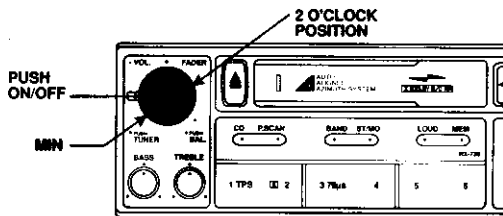

Figure 11. The Car Audio System's Volume Control.
2. Turn the volume level control on your tape player (AM/FM, cassette, CD player, etc.) to the imaginary 2 o'clock position (Figure 11).